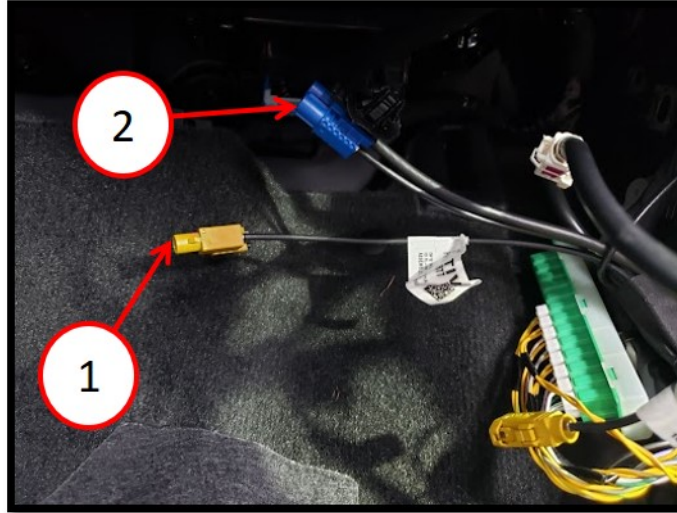

Fig. 1
2. Access the Y342A (**Blue Connector**) wire and the Y341A (**Yellow Connector**) wire (Fig. 1) . These are the two wires that will require re-work.